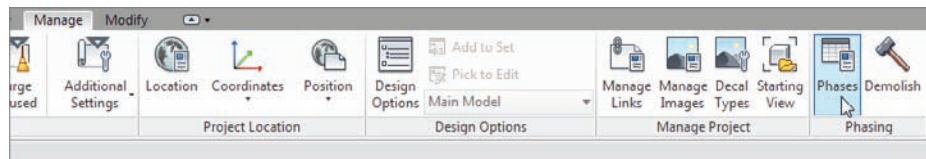

FIGURE 21.1 Clicking the Phases button
I've seen this scenario played out more times than I'd like. People get Revit, build a model, and then start clicking the Demolish button found on the Phasing panel on the Manage tab (see Figure 21.1). Yes, doing so forces hidden lines, and now you're demolishing walls that were constructed in the same phase that they're being removed. You can't do that!
1. On the Manage tab, click the Phases button on the Phasing panel, as shown in Figure 21.1.